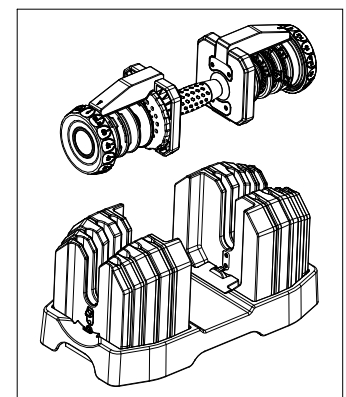

Figure 2
5. Set both adjustment knobs to number 2 Finally, pull the handle straight out of the dumbbell. This will remove only the handle from the base , leaving all the dumbbell plates in the base ( Figure 2 ) . The handle without the dumbbell plates has a first weight of 2 kilogram ( 5 lbs).